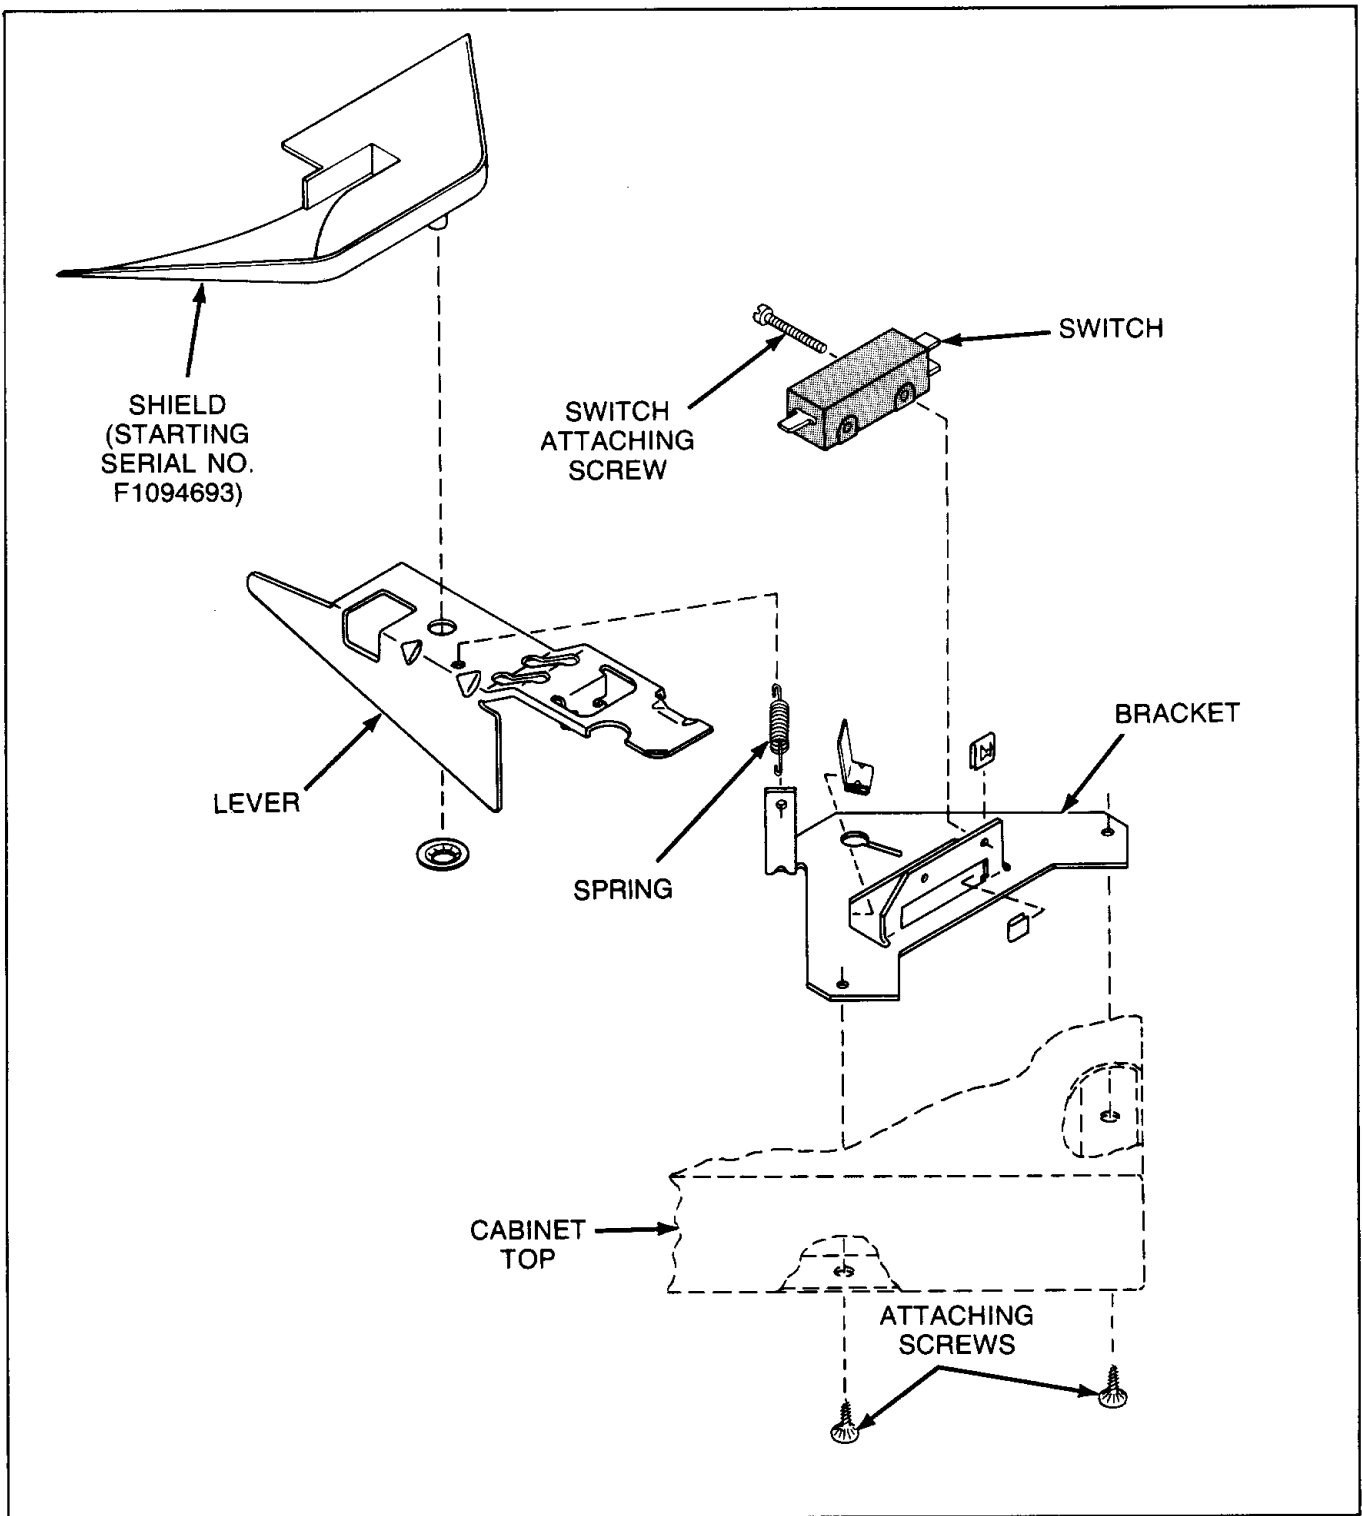

Figure 24
**22. DOOR AND OUT-OF-BALANCE SWITCH AND BRACKET ASSEMBLY** (Refer to Figure 24)